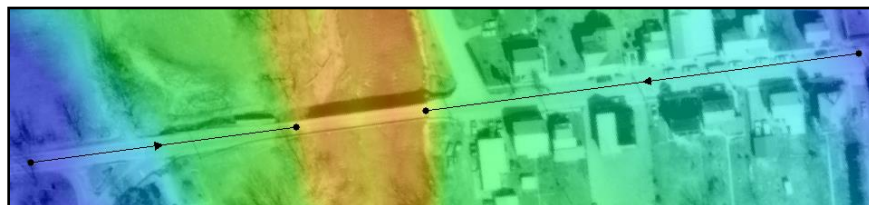

Figure 4 Abutment centerline arcs
4. Using the **Create Feature Arc**  tool, create two arcs representing the centerlines of the two abutments (east and west) as shown in Figure 4. Start the arcs at the point farthest from the bridge and end them at the bridge.